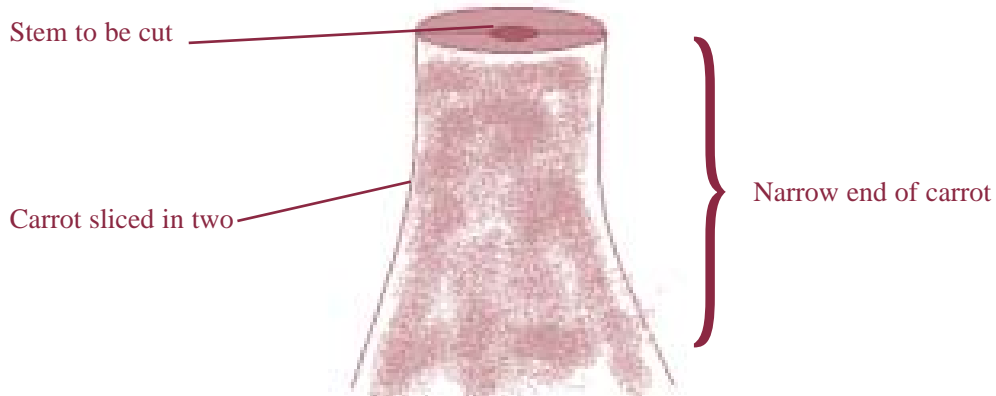

Fig. 2 Using a carrot to help cut a section
- A carrot may be used to support a stem while cutting. Slit along the diameter at one end as shown, cut a groove and insert the stem. Bring the carrot to a point like a pencil and cut (Fig. 2). Small polystyrene blocks, potatoes or elder pith may be used in this way also.